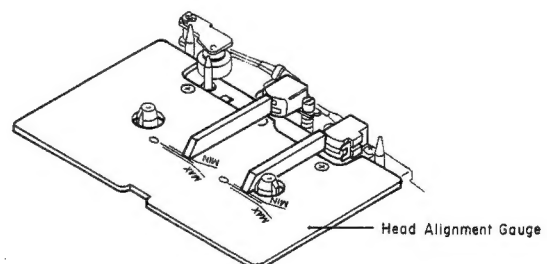

Fig. 3.2
Refer to Fig. 3.2.
- (1) Load the base of the Head Alignment Gauge carefully, then push the base toward the Record/Playback Head to eliminate the clearance between the reference pin and the base.
- (2) Set the cassette deck in Play mode.
- (3) Place the small block of the Head Alignment Gauge on the base.
- (4) Contact the small block with the Record/Playback Head surface and the Erase Head surface, and check whether the end of the small block is located within the specified tolerance as shown in Fig. 3.2.